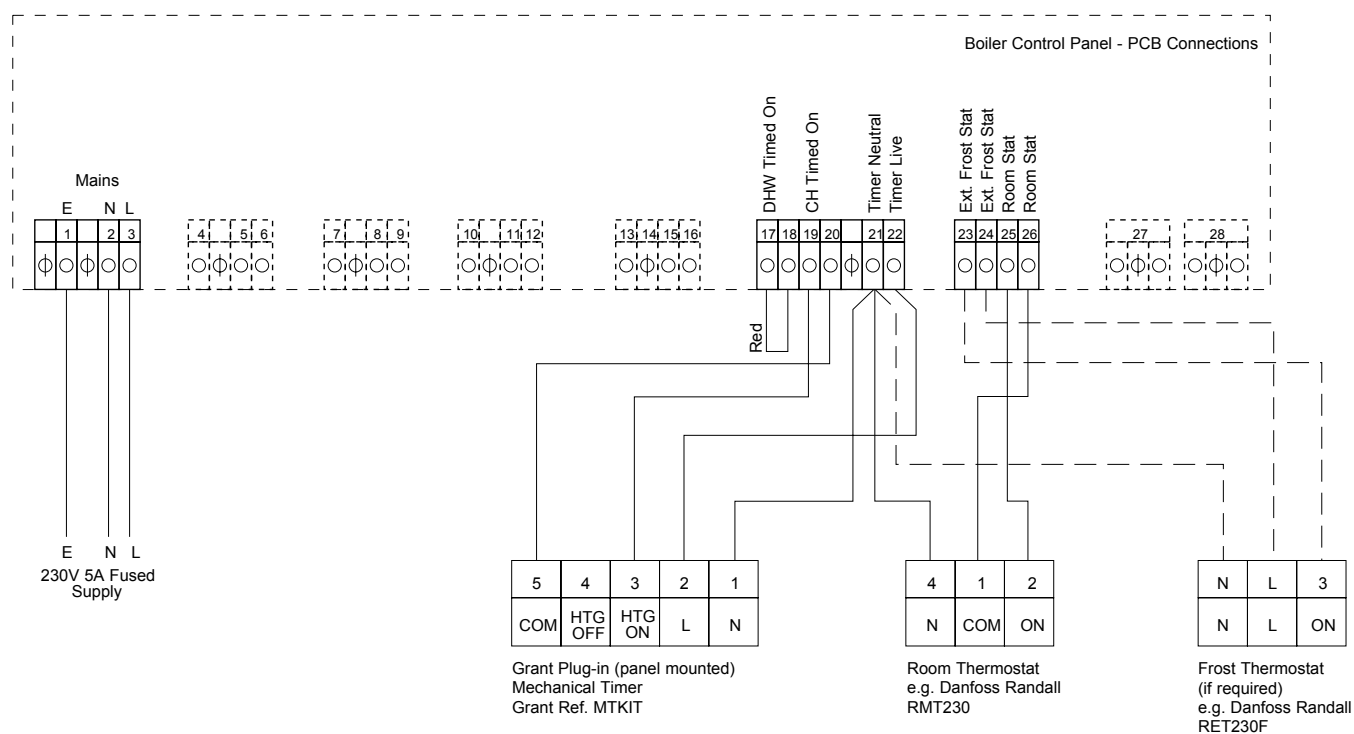

Figure 8-4: Connections for an MTKIT and room thermostat
2. Remove the Orange room thermostat link wire from terminals 25 & 26 on the connection block and connect the wires from the room thermostat. Refer to Figure 8-4 for further details.